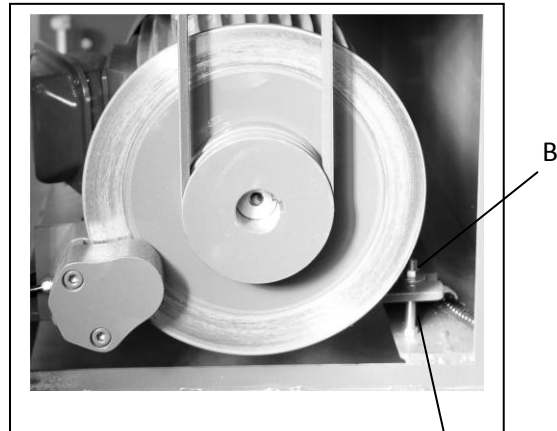

Figure 11
2. Loosen the lower hex nut (A, Figure 11) on the motor base.
3. Tighten the top hex nut (B, Figure 11) to lower the motor plate until proper tension is achieved.
5. Re-tighten the bottom hex nut (B, Figure 11) against the bottom of the motor plate.